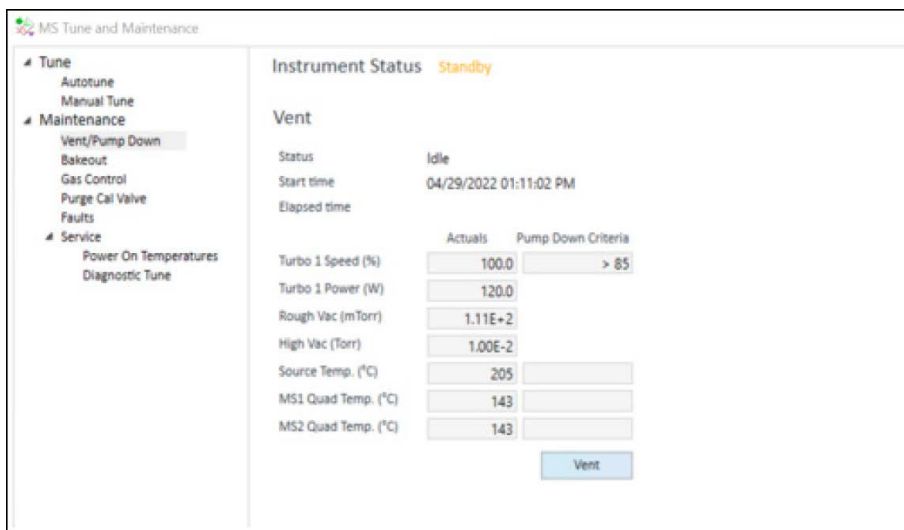

Figure 37. Pumpdown status
- 14 The **Pumpdown** dialog displays. (See Figure 37.) You are prompted to make sure the vent valve is closed.